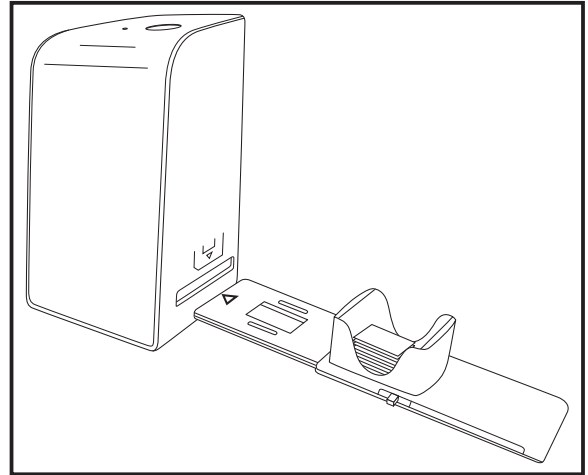

Figure 2
- ◆ Insert slides the right way round into the shaft provided on the slide magazine ⑥. Around 10–12 slides (depending on size) can be added to the magazine.
- ◆ Push the slide magazine ⑥ into the slot ④ on the right with the viewing window at the front. Ensure that the triangle marking is at the front and visible (see figure 2).